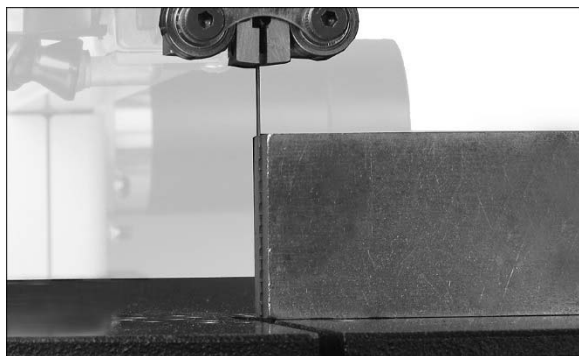

Figure 20: inspecting blade squareness
Refer to Figures 20 and 21.
- Place a machinists square or other 90-degree measuring device on table and against blade (Figure 20). Do not deflect blade by pushing into it.